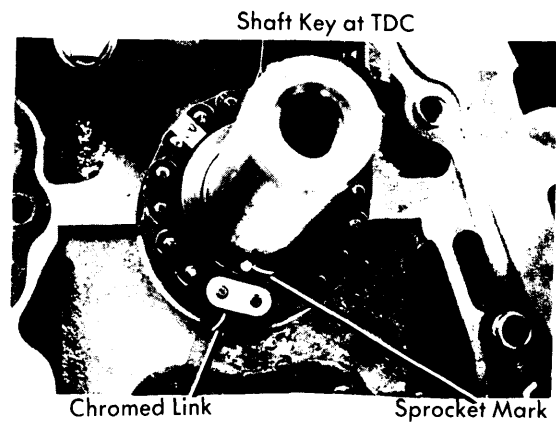

Fig. 9 Aligning Crankshaft Sprocket & Timing Chain
**Installation** - 1) Turn crankshaft until shaft key is at TDC and slide sprocket over key. Position chain with chromed link over sprocket and aligned with mark on sprocket (See Fig. 9).